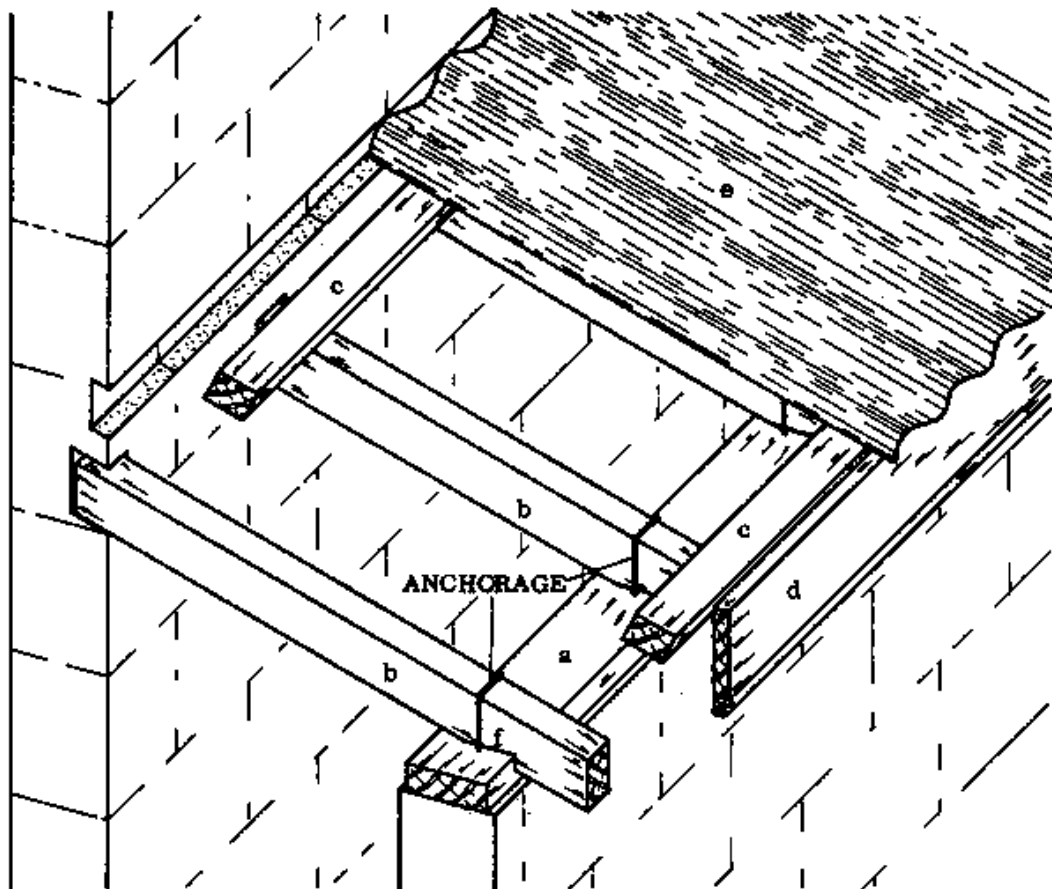

Fig. 1
A lean-to roof is a sloping roof attached to the wall of another building. It is “leaning” against the building. It is usually used for a small store or similar building which is attached to an existing building. The main members are: (Fig. 1)
- A good method for fixing rafters onto the main wall is to chisel holes in the wall into which the rafters can be fitted. The holes should be deep enough to ensure a safe rest for the rafters (Fig. 1).